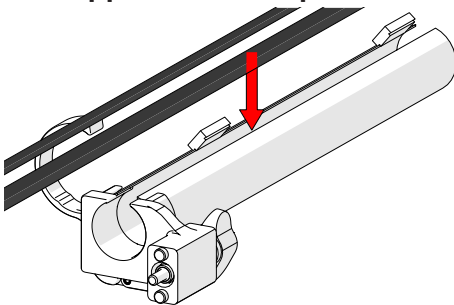

Fig. 243 - Insert cables and hoses
1. Open the zipper tube. Begin at the clamp end and start placing the cabling in the tube (*Fig. 243*).